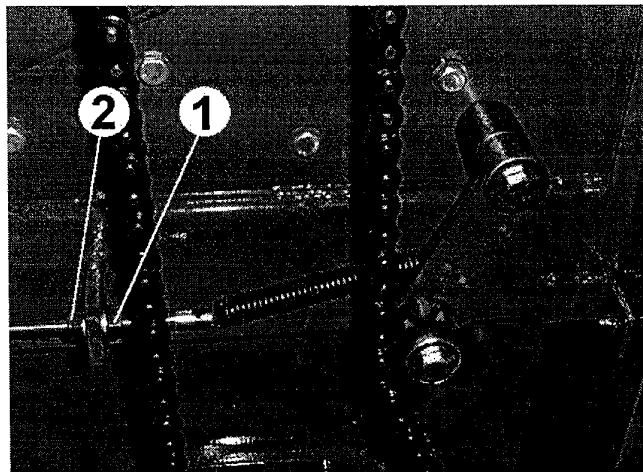

Fig 6
The various drives on Eureka are provided by roller chain. There are three roller chain drives, one for the conveyor belt, one for the rear web and one for the lower web. Each of these chains are tensioned by a spring-loaded tensioner. To adjust, slacken the lock nut (item 1, fig 6) and turn the adjuster nut (item 2, fig 6). Do not over-tighten the chain drives as this can result in premature wear.